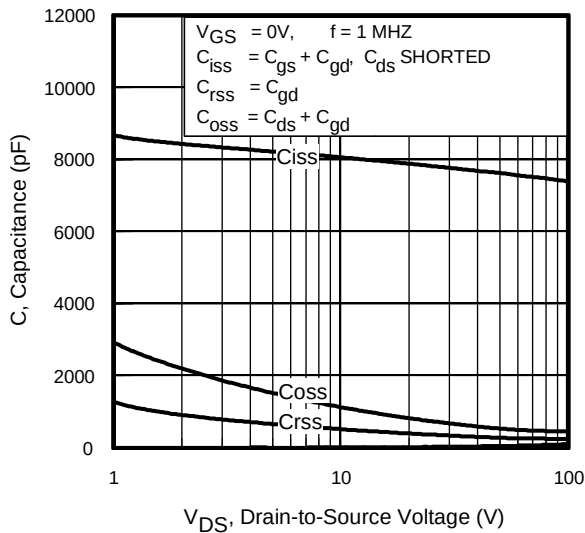

Fig 5. Typical Capacitance vs. Drain-to-Source Voltage
| $C_{oss \text{ eff. (TR)}}$ | Effective Output Capacitance (Time Related) ⑥   | —    | 720.1 | —    |       | $V_{GS} = 0V, V_{DS} = 0V \text{ to } 80V$ ⑥, See Fig. 5 |